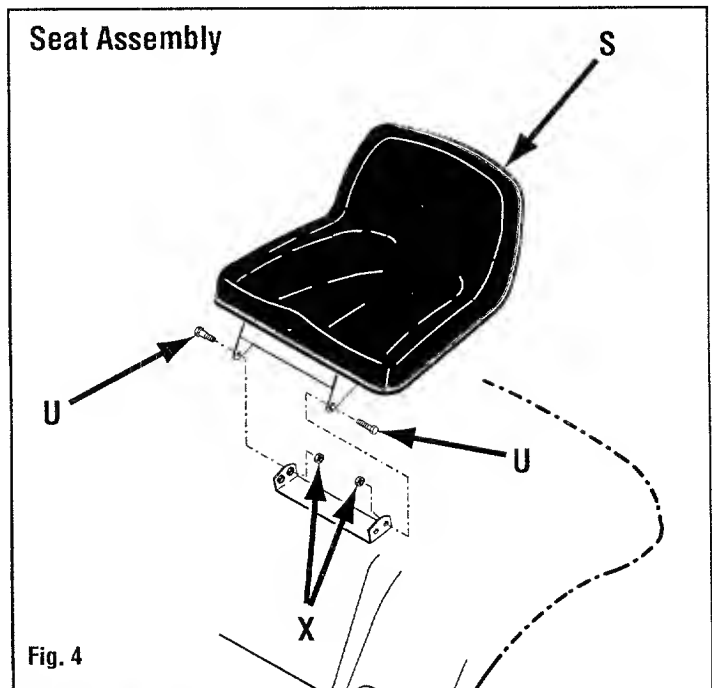

Fig. 4
- Place seat assembly (S, Fig. 4) onto seat bracket.
- Using a 9/16" socket and a 9/16" open-end wrench, secure seat with screws (U)